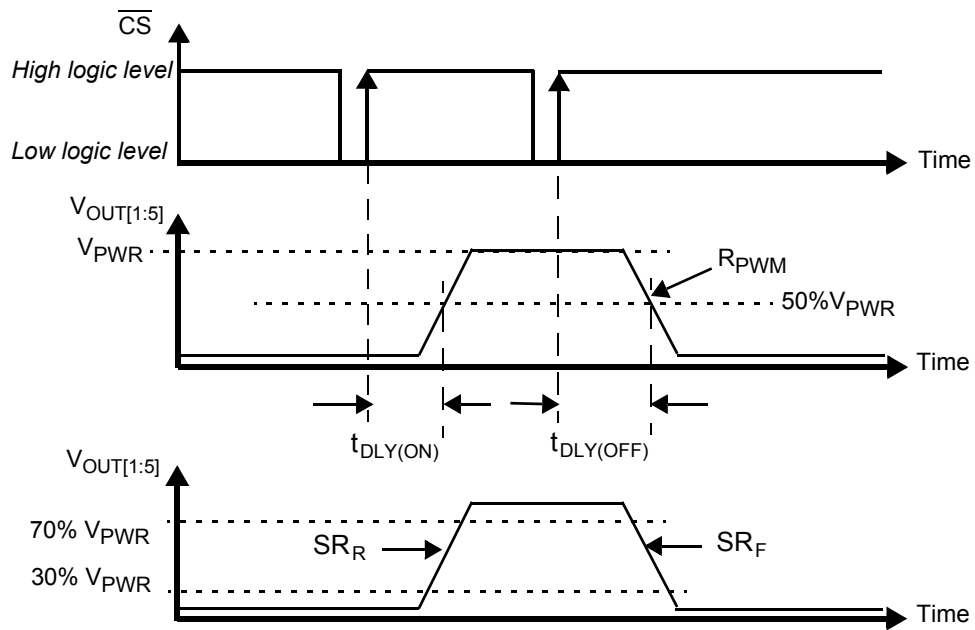

Figure 6. Output Slew Rate and Time Delays
42. The PWM ratio is measured at  $V_{OUT} = 50\%$  of  $V_{BAT}$  in nominal range of PWM frequency. It is possible to put the device fully on (PWM duty cycle = 100%) and fully off (PWM duty cycle = 0%). Between 4%-96%,  $OCHI_{1,2}$ ,  $OCLO$  and open load are available in ON state. See Figure 6. Output Slew Rate and Time Delays.